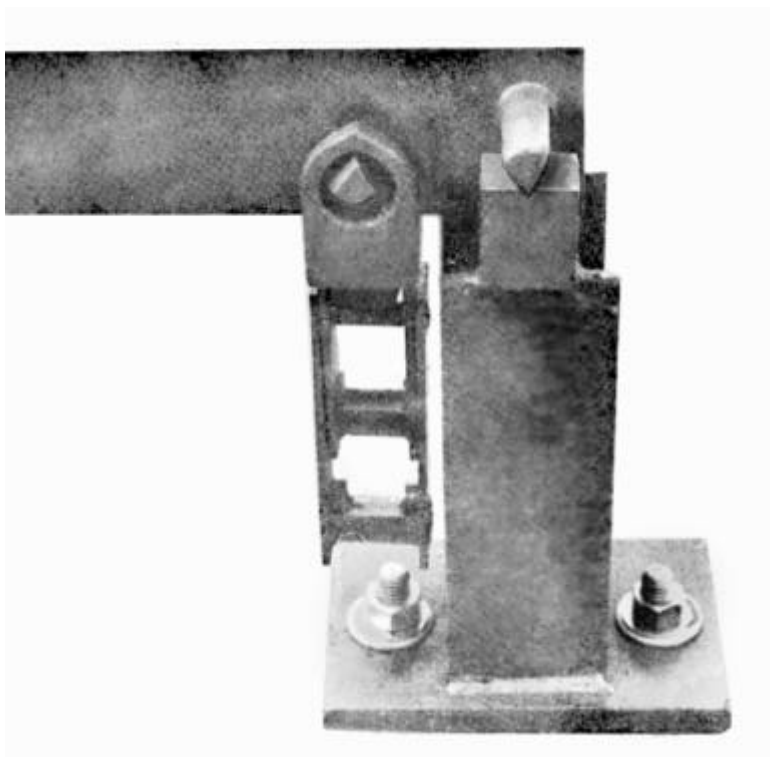

Figure 54. Transverse Lever Installation
9. Install the Right and Left Main Levers with their Fulcrum Pivots on the Bearings of the Lower Main Stands. The Main Lever's Tip Pivots rest directly above each other in the Shackle. See Figure 54 & 55.